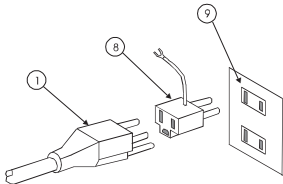

Figure 3
①. The **Power Cord** is designed for a three wire system (two wires carry power and the third is connected to earth). A two to three wire Adapter Plug is provided for two wire receptacles.
②. Each SurgeArrest has a built-in **ON/OFF Power Switch** to allow the user to activate electricity to connected equipment such as computers, printers, terminals etc.
③. The **POWER ON** indicator is activated when the Power Switch is ON and the unit is receiving electricity.
- ④. The **Protection Working**  indicator is activated as long as the thermal fuse is intact. If this indicator is extinguished, the product disconnects from the utility line. In this case, return this unit to APC for repair or replacement.
- ⑤. Seven **Outlets** are provided for your convenience.
- ⑥. **Telephone Protector/ Network Port Protector** (optional) Model Pro7T-J has a built-in one line (two wire) telephone protector. A six foot telephone extension cord is provided. Model Net7N-J has a built-in network protector. Network Port Protector (for 10BaseT, 100BaseT, 100BaseTX, 100BaseT4, 100VG-AnyLAN, & Token Ring interface cards & HUBs).
- ⑦. Each SurgeArrest is equipped with a 15 Amp **circuit breaker** to protect against electrical power overload. Button will pop up in the event of an overload. If this happens, unplug at least one piece of equipment, and reset button.
- ⑧. A 3 prong to 2 prong **Plug Adaptor** is provided for your convenience. See figure 3.
1. Turn OFF Power Switch ②. The switch lever marked with the “O” should be down.
2. Connect the Power Cord ① into a 100VAC receptacle. It is highly recommended that a grounded receptacle be used. If your receptacle is ungrounded (accepts only plugs with two blades), attach the 3 to 2 Plug Adapter that is supplied with the unit. The Adapter Plug has a green wire that is used to connect to earth ground where permitted or accessible. Please note that ungrounded surge protectors do not provide effective surge protection between line to ground. Check local electrical laws governing grounding practices. See Figure 3 below.